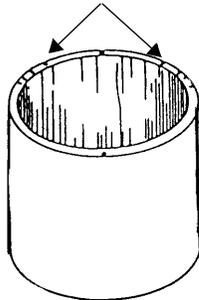

Figure 4.10
2. Place the cylinder with the motor mounting holes away from you. (Figure 4.10)